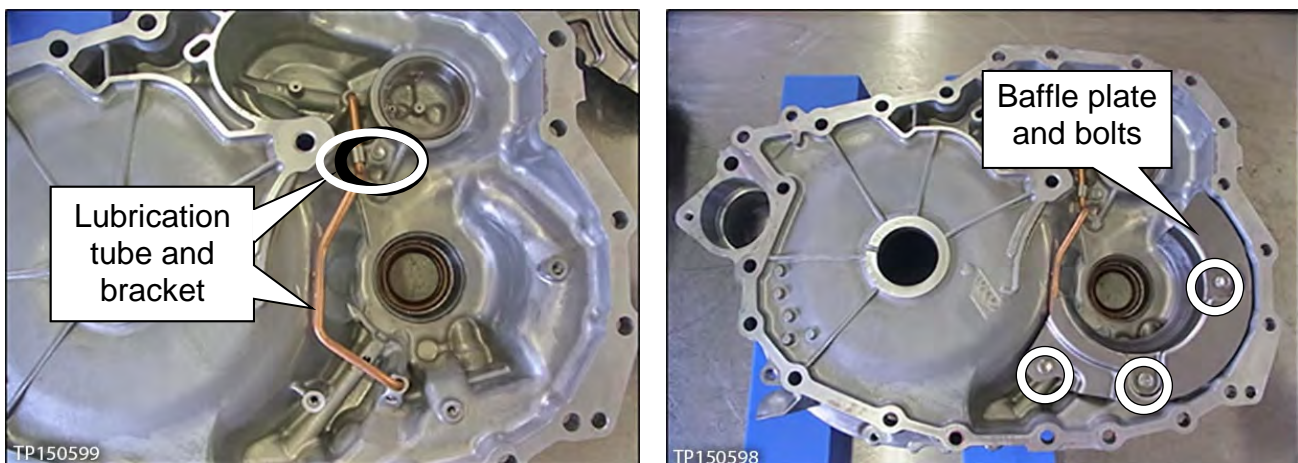

Figure 5H
- Install the lubrication tube and bracket, and then the baffle plate with three bolts (Figure 5H).